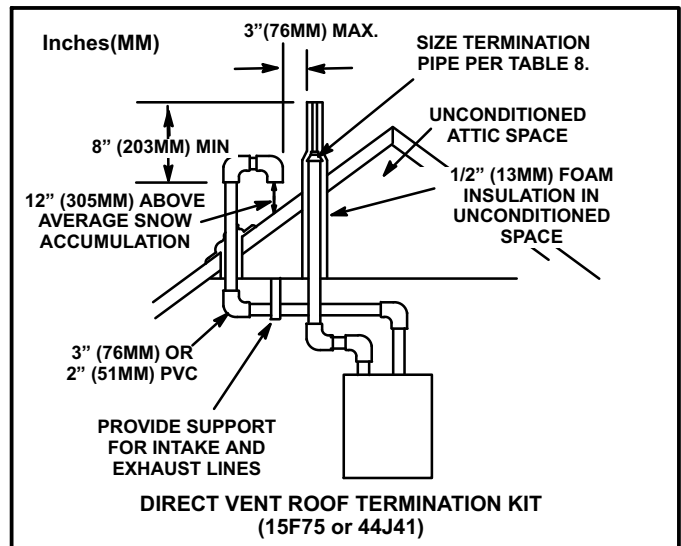

FIGURE 32
Intake and exhaust pipes may be routed either horizontally through an outside wall or vertically through the roof. In attic or closet installations, vertical termination through the roof is preferred. Figures 32 through 46 show typical terminations.
- 3 - On roof terminations, the intake piping should terminate straight down using two 90° elbows (See figure 32).